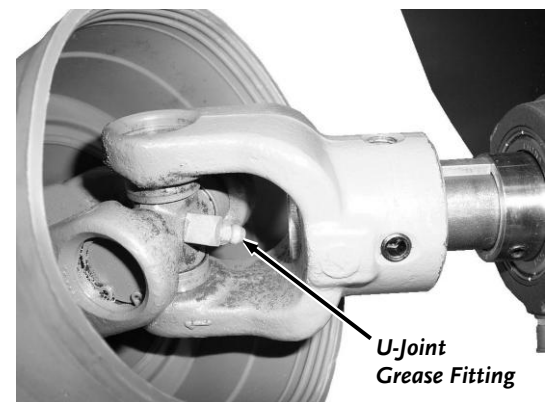

Figure 26
2. Apply no more than three pumps of quality general-purpose lithium grease with a hand-pumped grease gun to each of the two U-Joint Grease Fittings (**Figure 26**).